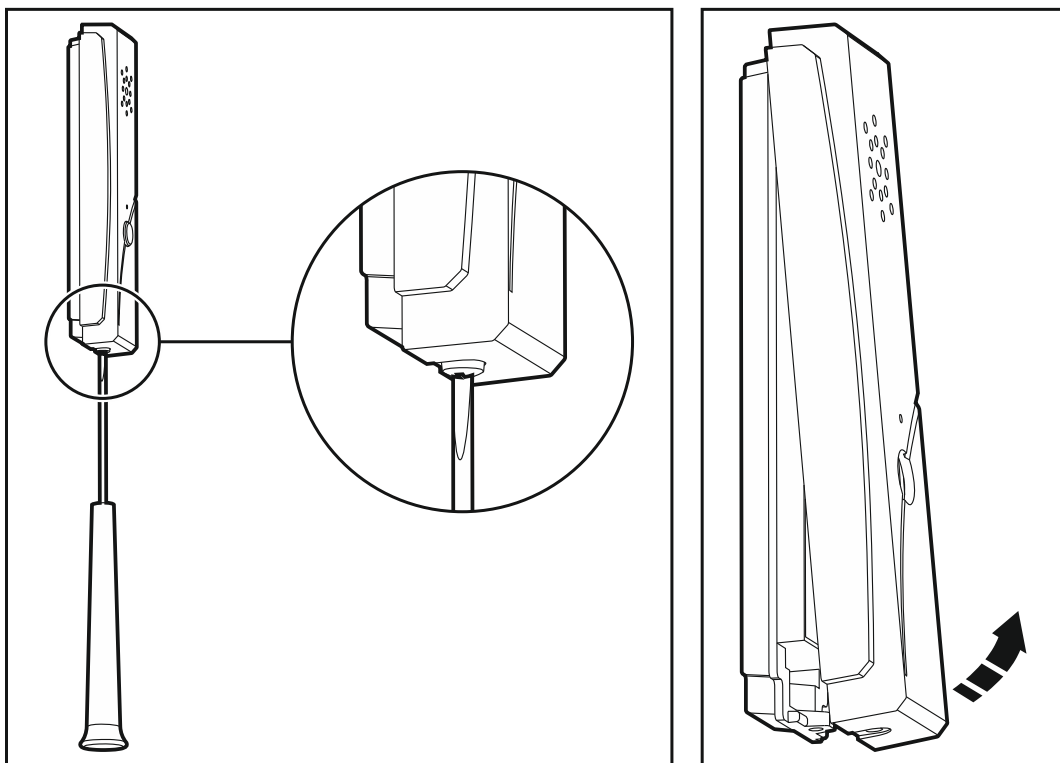

Fig. 21. Opening the INT-AVT terminal enclosure.
1. Remove the screw, lift the enclosure cover and detach it (see Fig. 21). The cover will still be connected to the base by the speaker wires.